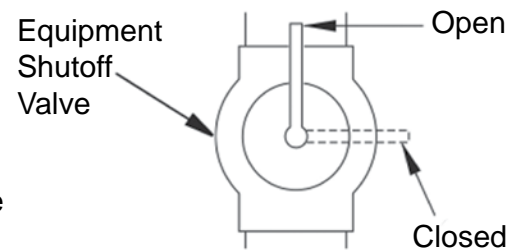

Fig. 17
1. Close equipment shutoff valve (See Fig. 17).
1. Open equipment shutoff valve (See Fig. 17).